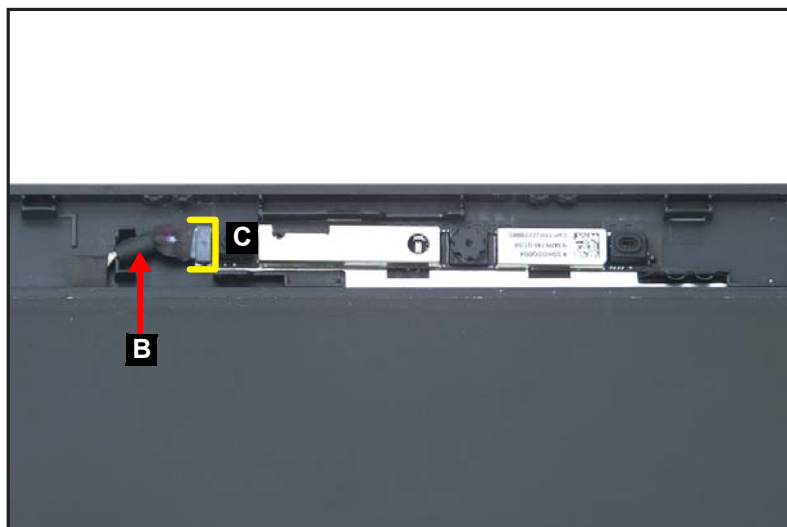

Figure 1-56. Camera Module Removal
2. Disconnect the eDP cable (B) from the camera module connector (C) (Figure 1-56).